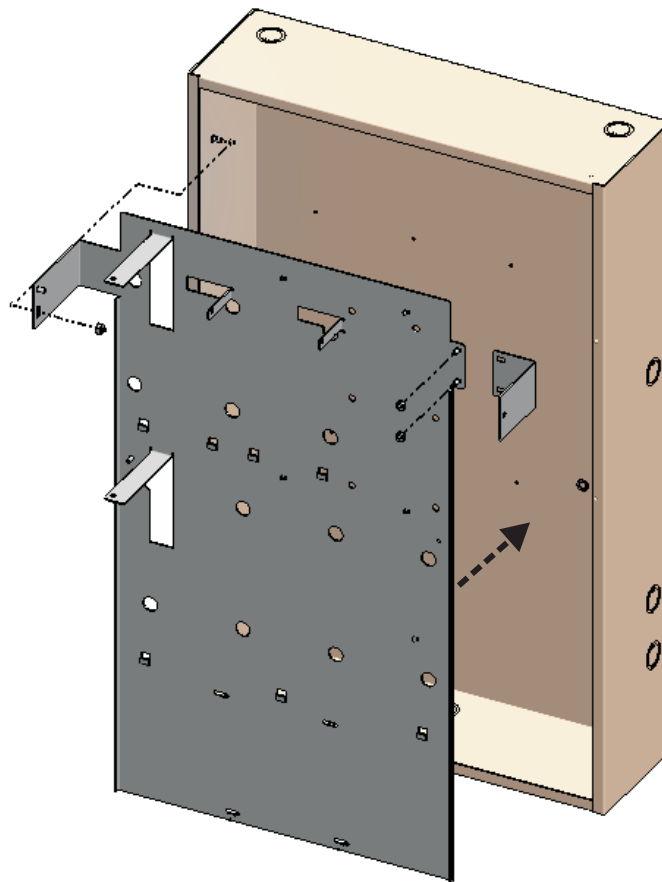

Figure H-1. Installing the Base Plate
3. Insert the base plate as shown in Figure H-1.
4. Manually hold the small bracket to the base plate at the right (shown in Figure H-1). Mark the hole location in pencil.